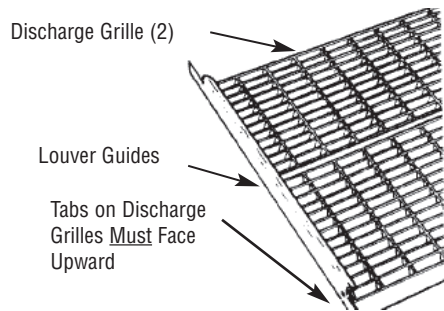

Figure 9
(See Figures 9, 10 and 11)**
3. Fit the two louver guides over the two discharge grilles as shown in Figure 9.